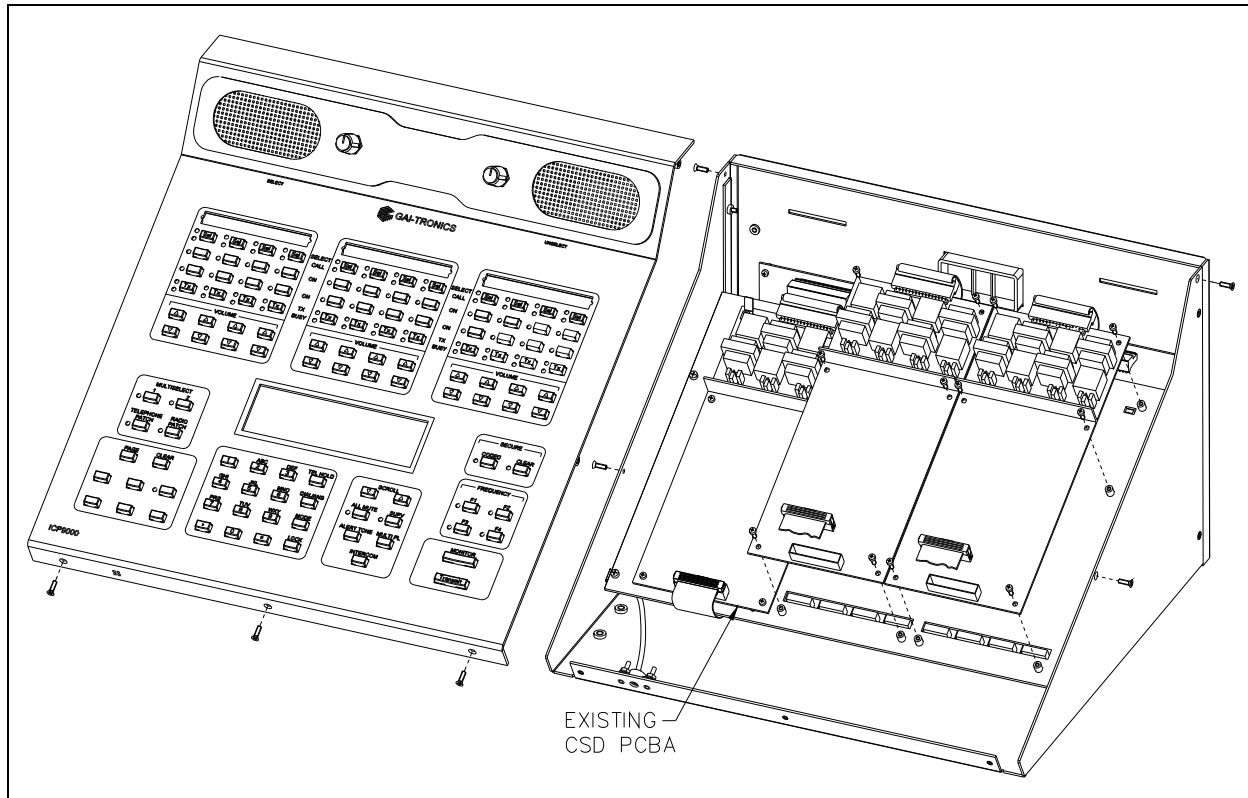

Figure 3.
7. Remove the seven screws securing the top panel and gently lift the cover to expose the attached speaker cable and master display cable. See Figure 3.
9. Mount the new CSD PCBA next to the existing CSD board(s) using the supplied #4-40 screws. Refer to Figure 3.